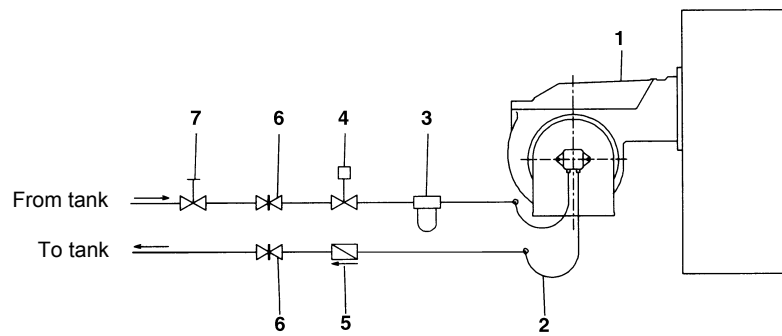

Fig. 21
**NOTE:** in plants where gravity or ring feed systems are provided, install an automatic interception device (see n. 4 - Fig. 21).